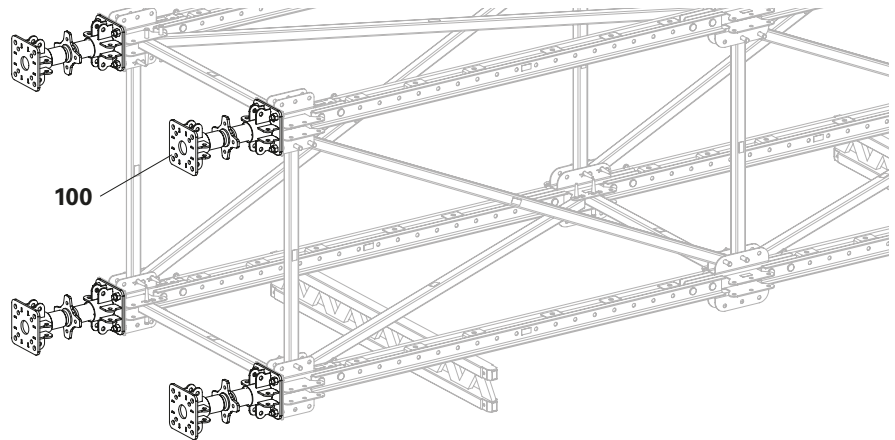

Fig. A1.20
2. Repeat the procedure for the remaining Spindles ATS 360-550 (**100**). (Fig. A1.20)